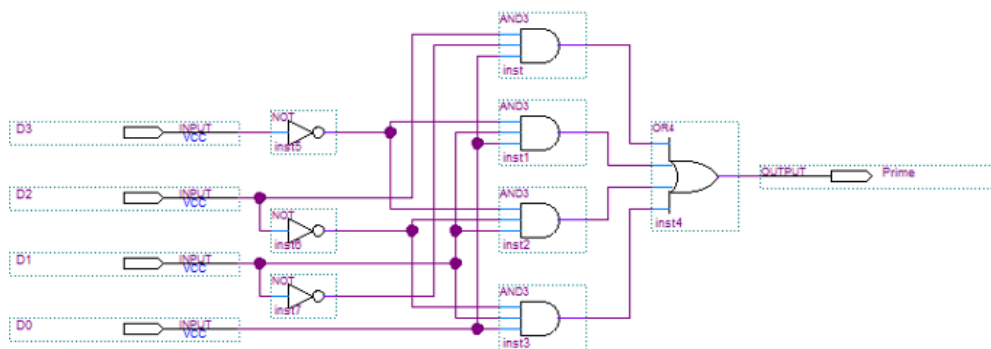

Figure 5.2.2: Block diagram of a prime number detector with AND Gates
4 bit numbers (N) are presented to the inputs (D_3, D_2, D_1, D_0), of the logic circuit from the block diagram of Figure 5.2.2. D_3 is the most significant bit (msb) of the binary representation of N , while D_0 is the least significant bit (lsb). The output (P) of this circuit has to be *HIGH* if the current input number N is prime and *LOW* if that number is divisible.